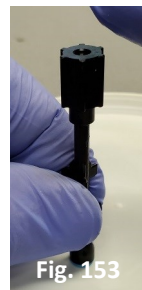

Fig. 153
5. Hold the poppet assembly vertical (LP seat down without spring) and push it firmly against a polished surface (Fig. 153). Perform a "Bounce Test" to confirm that the Balance Cylinder seals with the Turbine Piston. A quick tap with a forefinger against the base of the Balance Cylinder (Fig. 154) should result in the cylinder bouncing back up most of the way (Fig. 155). This should be repeatable as long as the hole in the LP seat remains sealed. Set the assembly aside. If the test fails, the Balance Cylinder, Turbine Piston, LP seat or o-rings may need replacement.